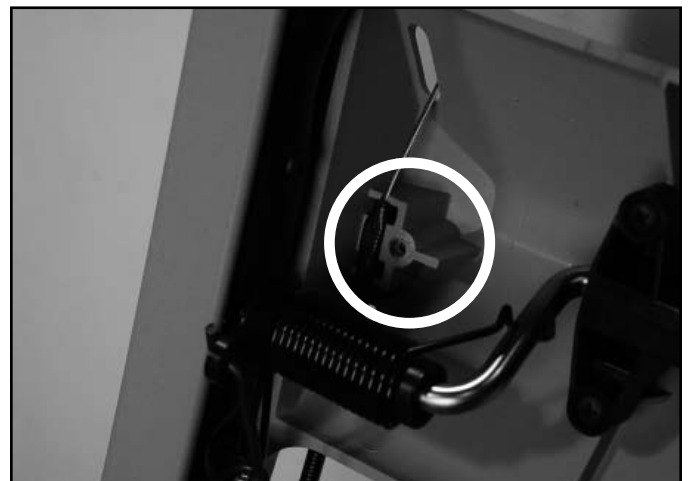

Fig 227
2. Turn the handle over and remove the cable clamp, screw and the cable from the pocket (Fig. 227).